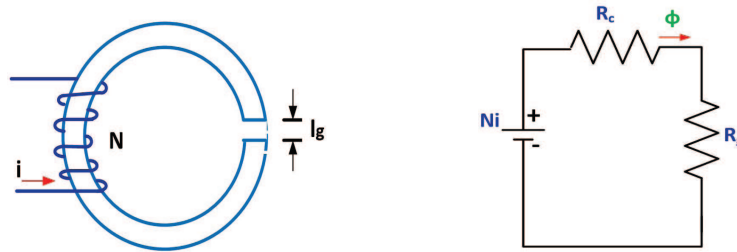

Fig.Q3(a):An electromagnet with air-gap Fig.Q3(b):Eq.magnetic circuit
3. An electromagnet of square cross section ($2 \times 2 \text{ cm}^2$), shown in Fig.Q3(a), has a coil of $N=1300$ turns. The inner and the outer radii of the core are 10 cm and 12 cm respectively and the air gap length (l_g) is 1 cm. If the current in the coil is $i = 5 \text{ A}$ and the relative permeability of the core material is 1200, determine the flux density in the core.